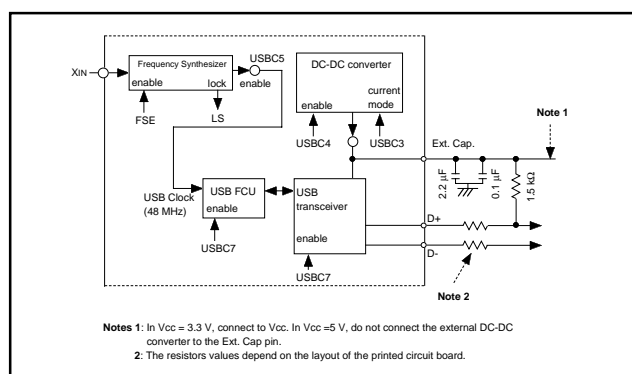

Fig.112 Peripheral circuit
•Connect a capacitor between the Ext. Cap. pin and the Vss pin. The capacitor should have a 2.2 μ F capacitor (Tantalum capacitor) and a 0.1 μ F capacitor (ceramic capacitor) connected in parallel. Figure 112 for the proper positions of the peripheral components.